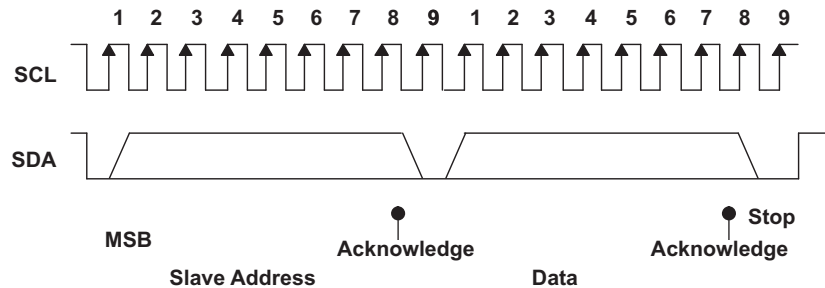

Figure 8. I²C Address and Data Cycles
- The master generates further SCL cycles to either *transmit* data to the slave ($\overline{R/\overline{W}}$ bit 1) or *receive* data from the slave ($\overline{R/\overline{W}}$ bit 0). In either case, the *receiver* must acknowledge the data sent by the *transmitter*. So, an acknowledge signal can either be generated by the master or by the slave, depending on which one is the receiver. The 9-bit valid data sequences consisting of 8-bit data and 1-bit acknowledge can continue as long as necessary (see Figure 8).